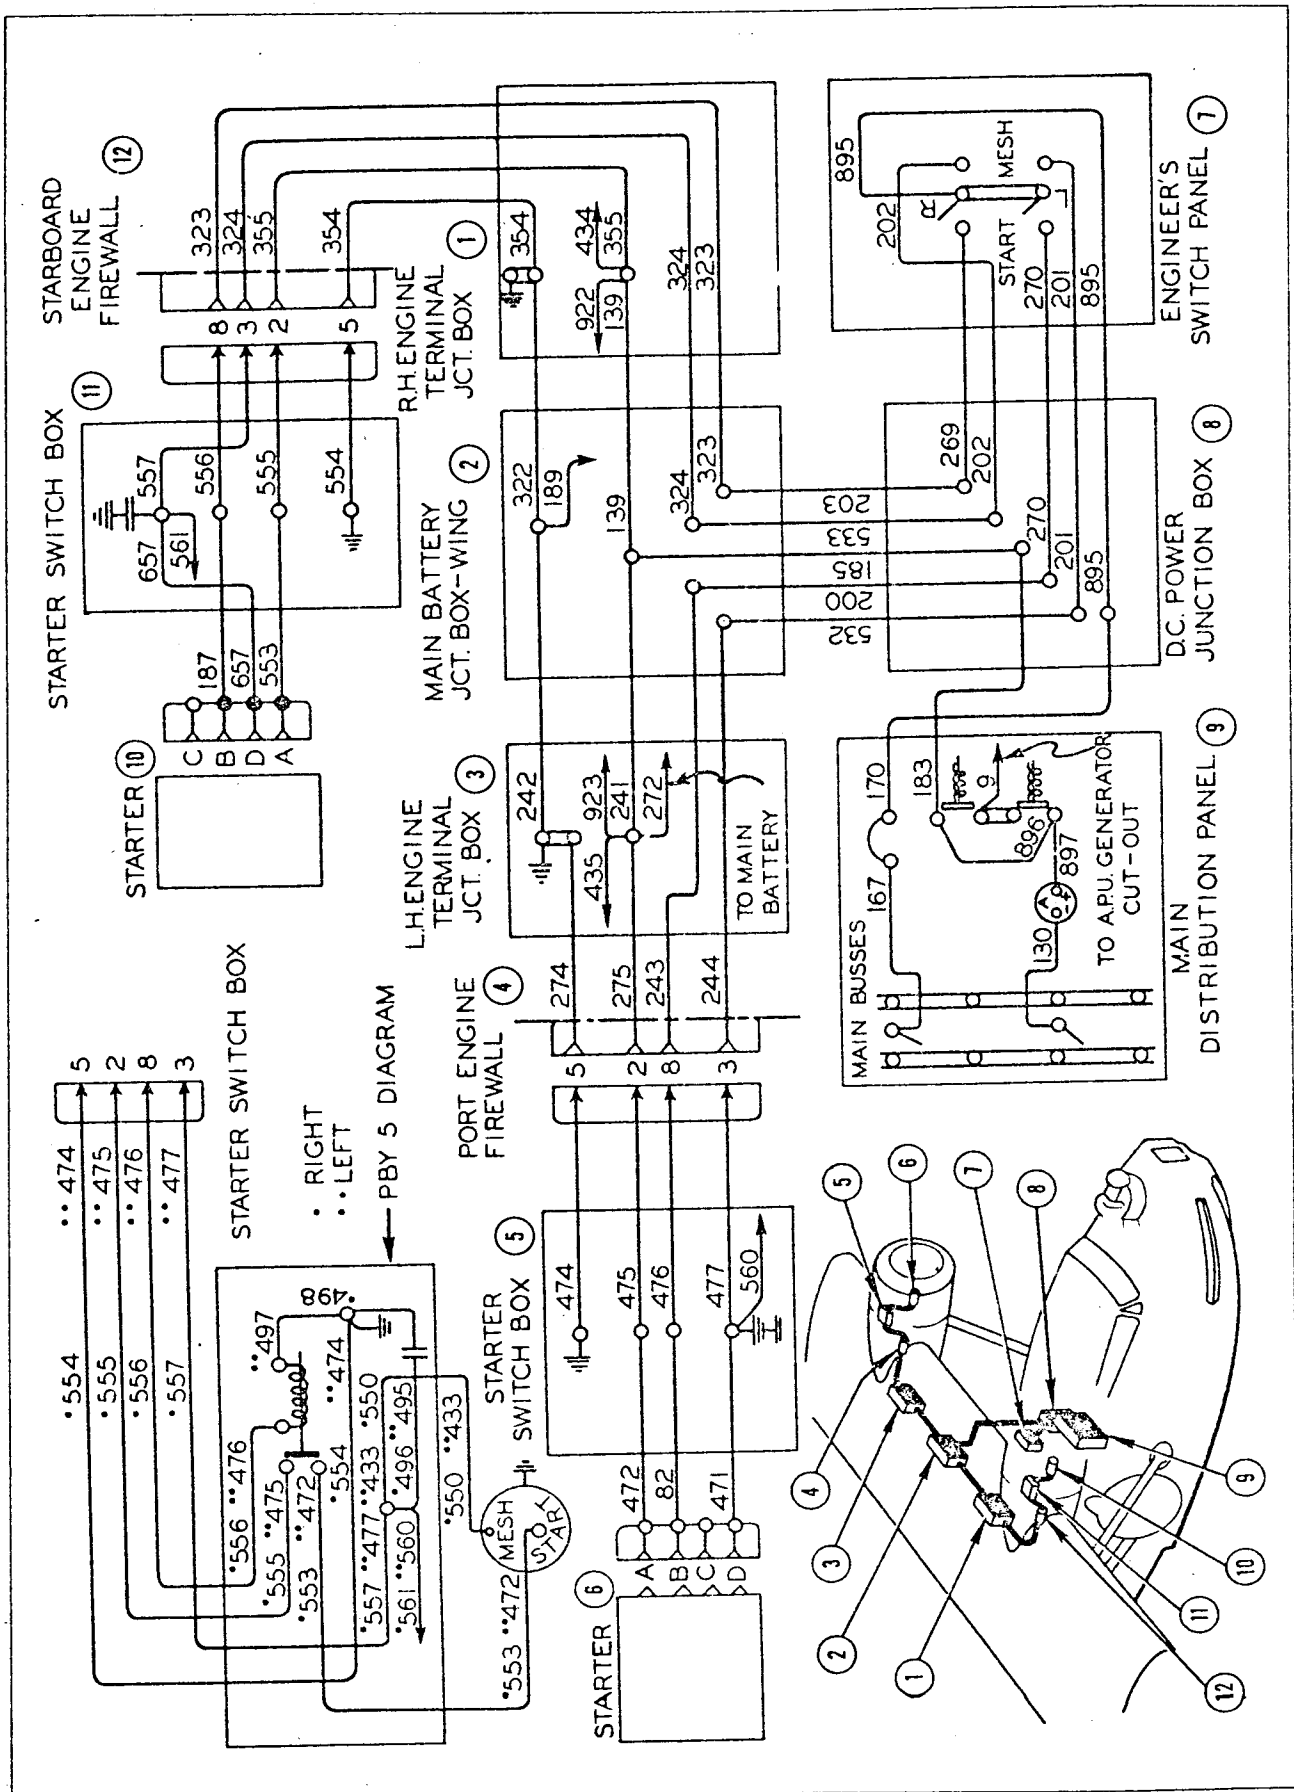

Figure 225—Engine Starter Circuit
(1) DESCRIPTION. (See figure 225.)—Each engine is started by an inertia type starter which, after acceleration, is meshed with the engine by a meshing solenoid.
(3) MAINTENANCE.—Inspect wiring and terminals in junction boxes shown on wiring diagram (See figure 225.) by following procedure outlined in paragraph g, (3). Be sure all solenoid contacts are kept clean.